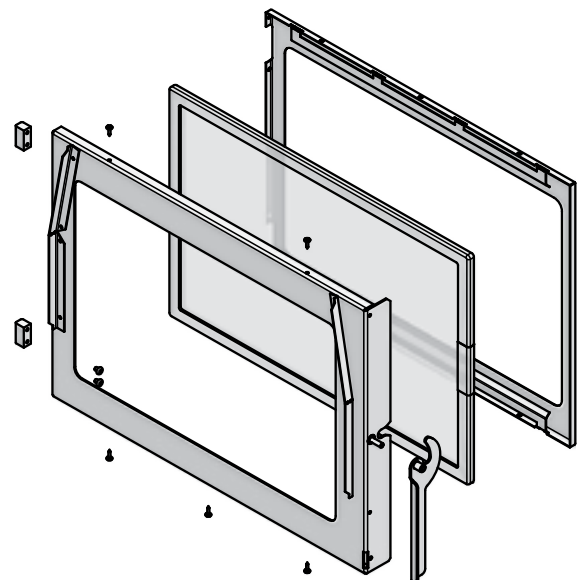

Figure 19.3
2. Using a Phillips head screw driver, remove 4 screws, 2 on the top and 2 on the bottom. Remove metal bracket and then remove the glass (Figure 19.3).